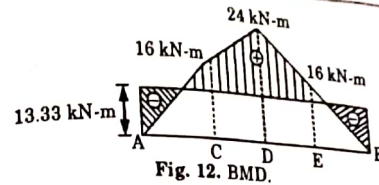

Fig. 12. BMD.
4. **BMD :** The BM diagram is shown in Fig. 12.